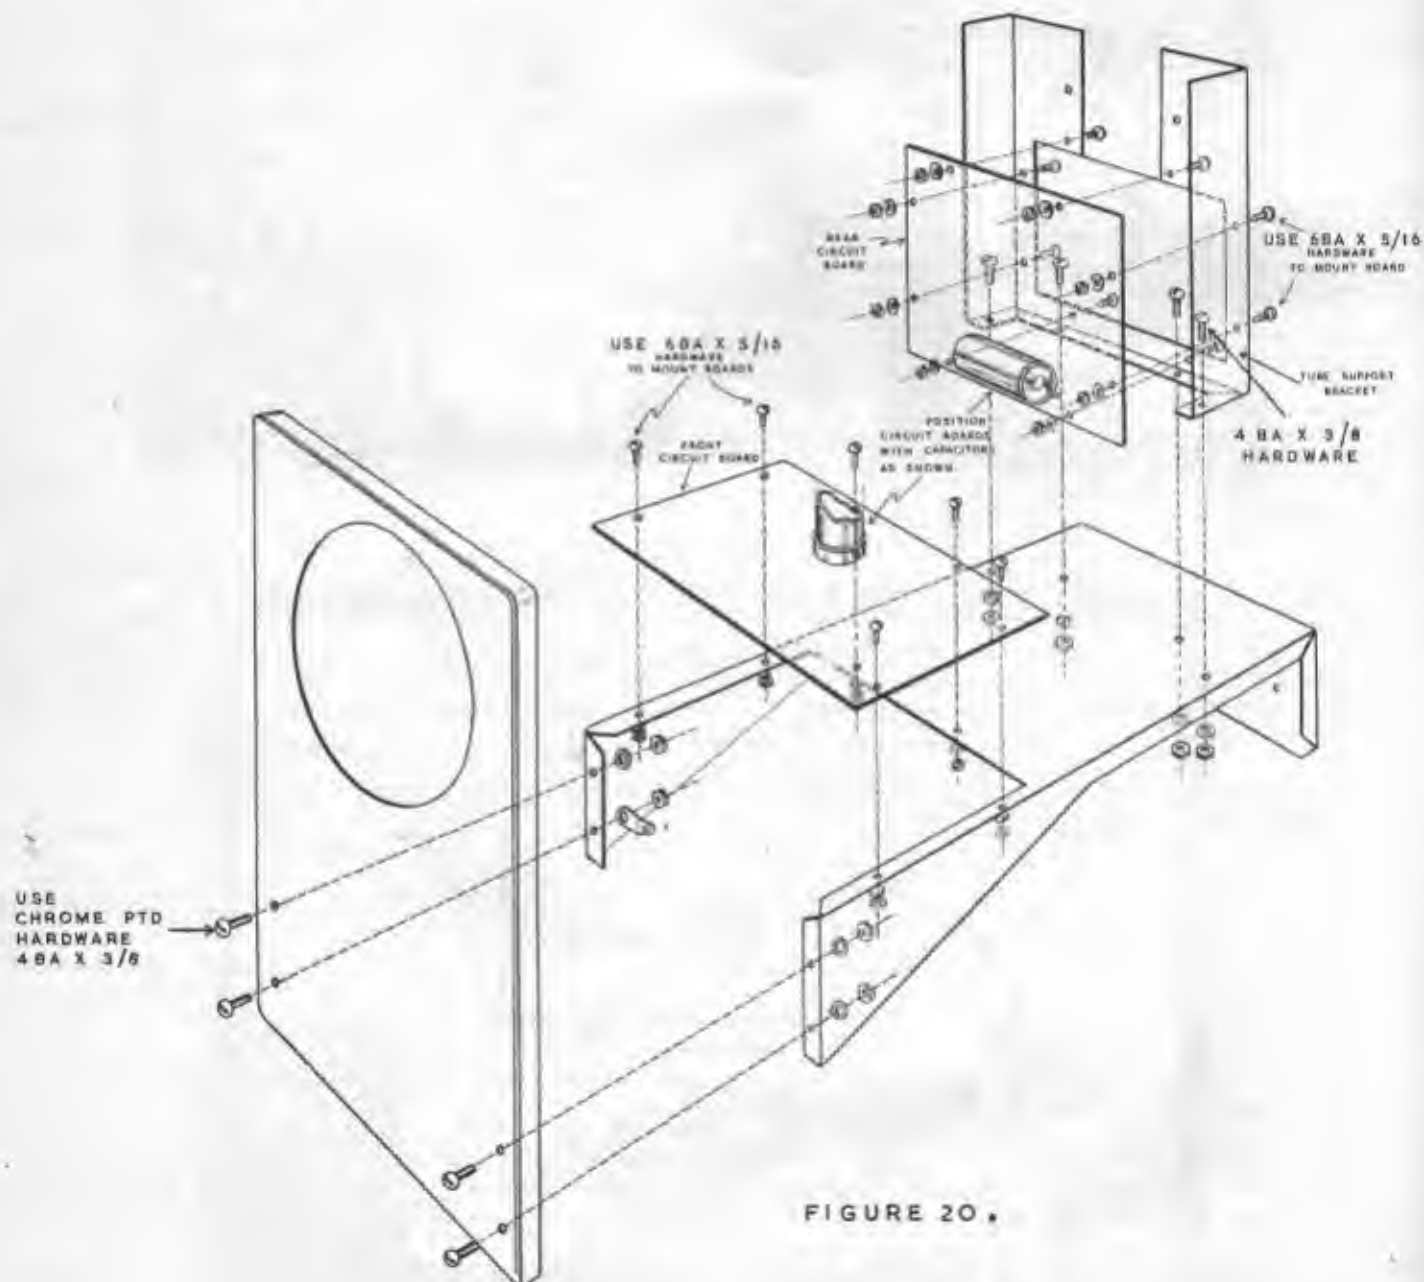

FIGURE 20.
- ( ) Attach the front panel to the chassis, using 4 - 4BA x 3/8" chrome plated screws, lockwashers and nuts as shown in Figure 20. Install a 4 BA shakeproof solder tag at location Y. Be sure the cable assembly is inside the bracket.
- ( ) Connect the bare wire (other end previously soldered to UU2) to RRG, the EARTH terminal (use sleeving) (NS).
- ( ) Connect a short wire from RRG (S-2) to the solder tag Y (NS).
- ( ) Now mount the rear circuit board inside the tube-support bracket, following Figure 20 for assembly details. Use 8 - 6BA x 5/16" screws, lockwashers and nuts. The foil side of the board goes towards the rear of the instrument with the tubular electrolytic capacitor at the bottom.
- ( ) Mount the tube-support bracket to the chassis, using 4 - 4BA x 3/8" screws, lockwashers and nuts. It will be helpful to insert the screw under the tubular electrolytic capacitor before the bracket is placed on the chassis. See Figure 20.
- ( ) Mount the front circuit board to the chassis brackets, using 6 - 6BA x 5/16" screws, lockwashers and nuts as shown. Be sure the board is positioned as shown, with the electrolytic capacitor to the rear. See Figure 20.